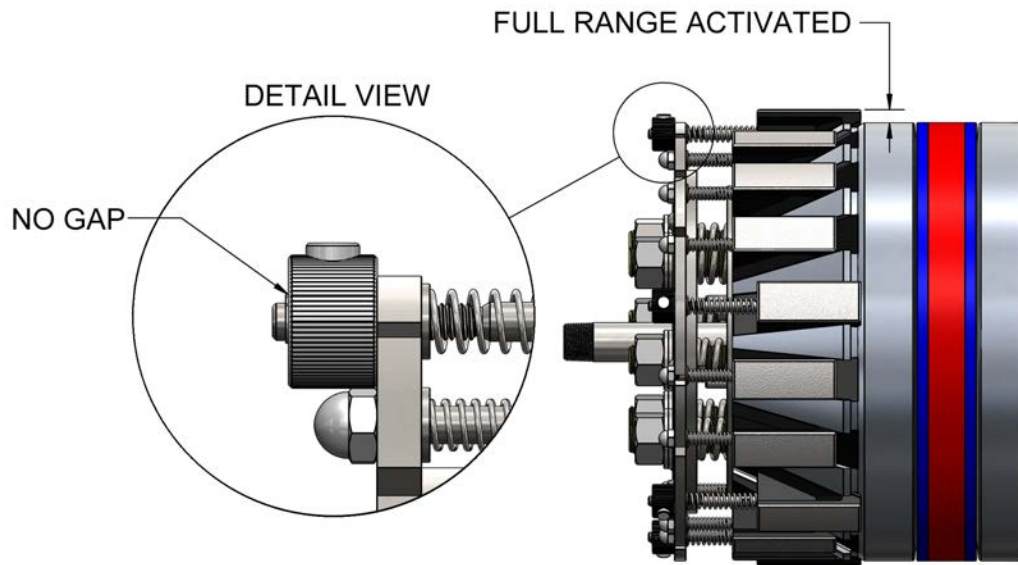

Figure 11: Selected Wedges Auto-Locking Technology **Correct** Ready to Install State
- Plugs fitted with SWAT must be in the "Correct Ready to Install State," see Figure 11, when inserting it into the pipe.
- In the "Correct Ready to Install State," **Speed Nuts(1)** are at the top of the **Wedge Gripper Stems(2)** with no gap between the **Speed Nut(1)** and its retainer ring, see Figure 11 – *DETAIL VIEW*. There must be **NO GAP** present between the **Speed Nuts(1)** and its retainer ring when installing the plug to ensure proper activation of the SWAT.